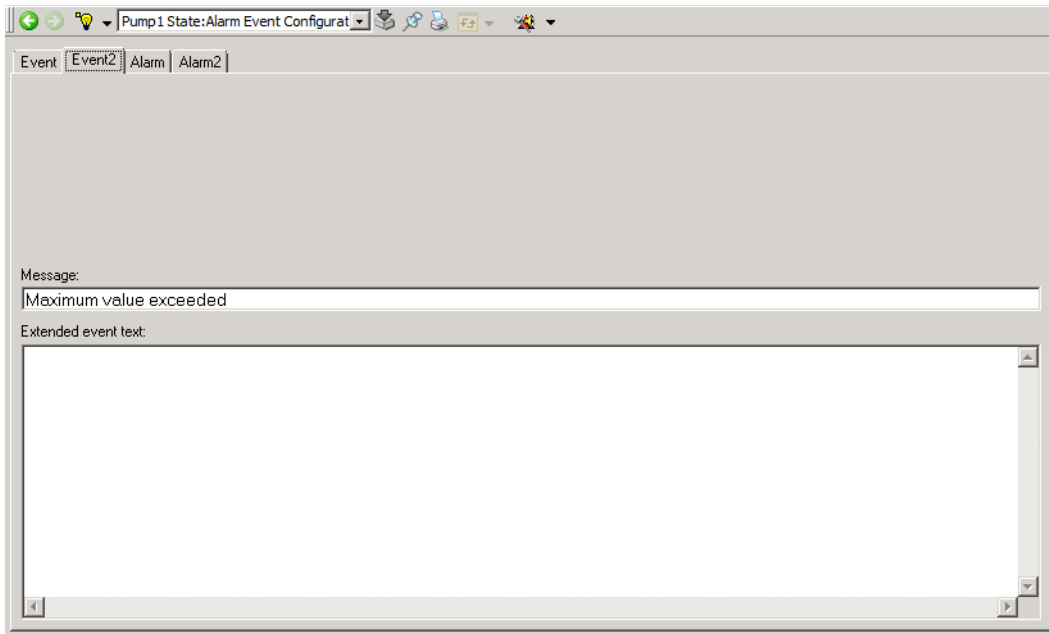

Figure 29. Entering the Event Text
- To enter the event text, click the **Event2** tab and then enter the text in the **Message:** field, Figure 29. The maximum number of characters in the **Message** field is 50. If additional event text is required, use the Extended event text: edit window.